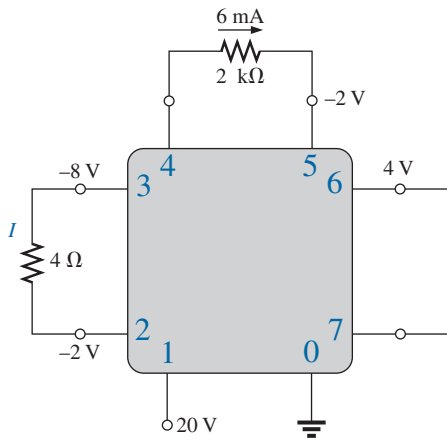

FIG. 5.125
- \*42. For the integrated circuit in Fig. 5.125, determine  $V_0$ ,  $V_4$ ,  $V_7$ ,  $V_{10}$ ,  $V_{23}$ ,  $V_{30}$ ,  $V_{67}$ ,  $V_{56}$ , and  $I$  (magnitude and direction.)